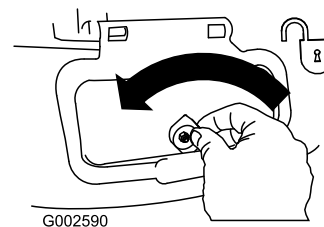

Figure 25
1. Unlock the side discharge door (Figure 25).